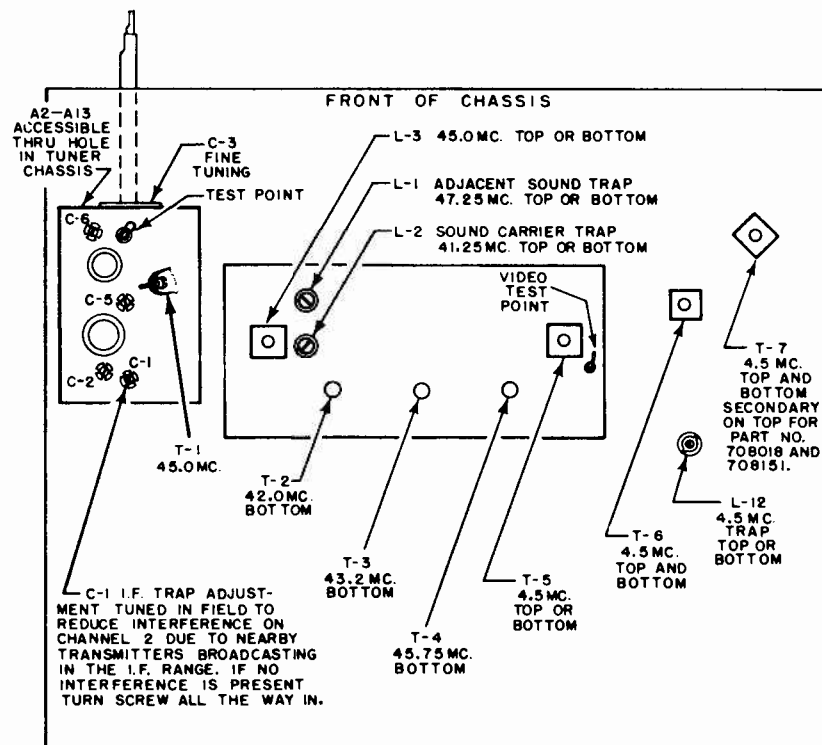

Figure 14 - LOCATION OF ALIGNMENT POINTS (TOP VIEW)
- b. Alignment Points - The location of all I.F. transformers, Tuned Circuits, and trimmers shown in Figure 14.